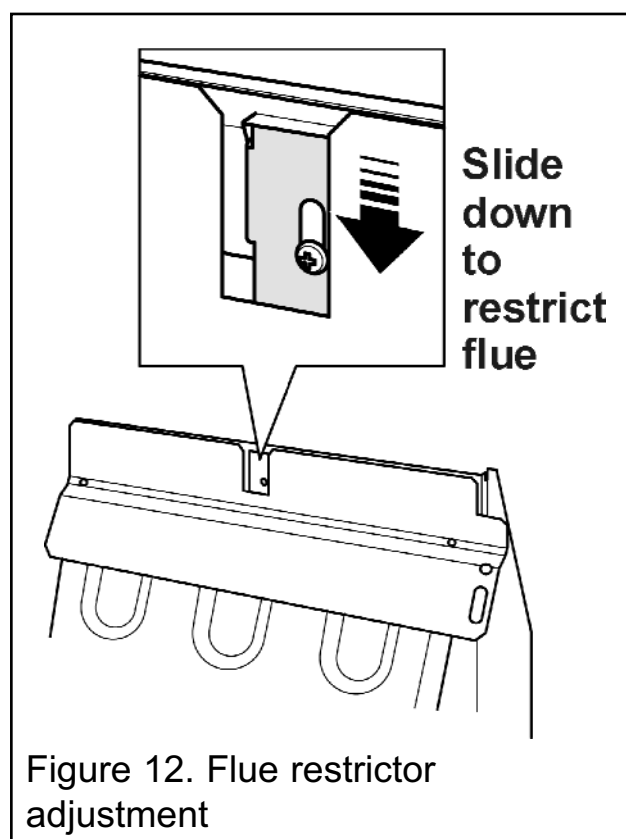

Figure 12. Flue restrictor adjustment
(See figure 12).
1. Loosen the screw situated behind the cut-out in the black upper heat shield. Do not fully remove the screw (See figure 12).